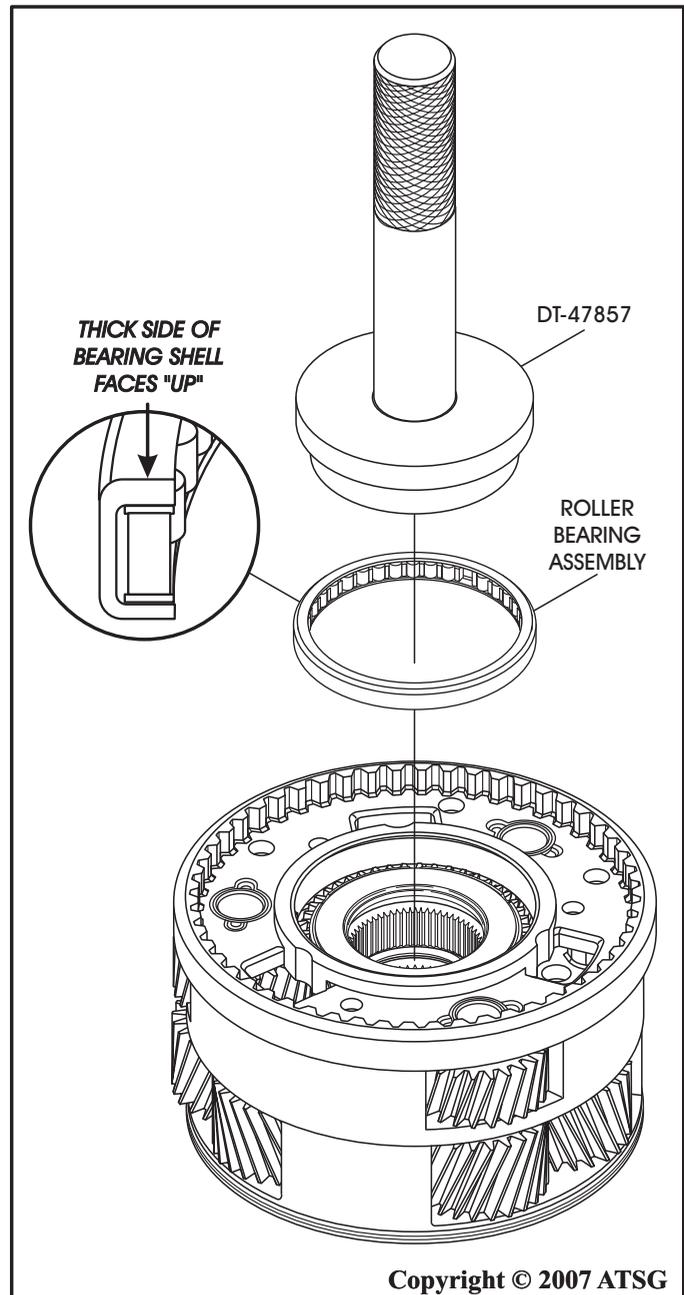

Figure 127
12. Install a new caged roller bearing using proper driver, as shown in Figure 127, and ensure the thick side of bearing is facing up.